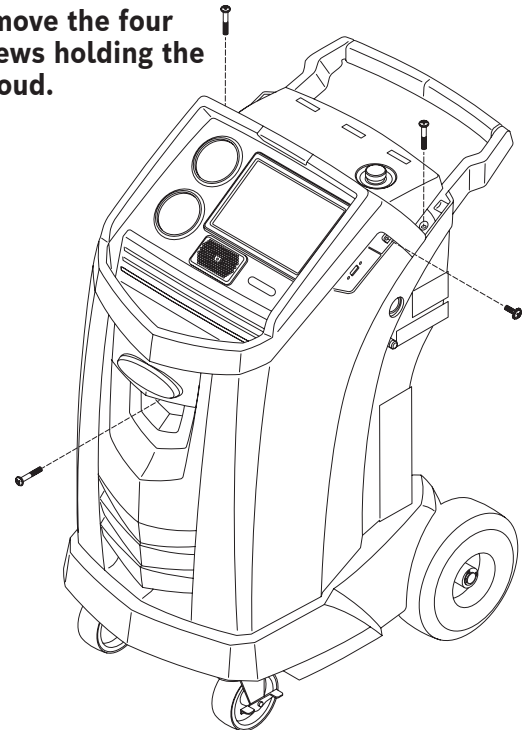

Figure 10
2. Remove the oil bottle, and remove the four screws holding the shroud. See Figure 10. Hang the shroud on the back of the machine.